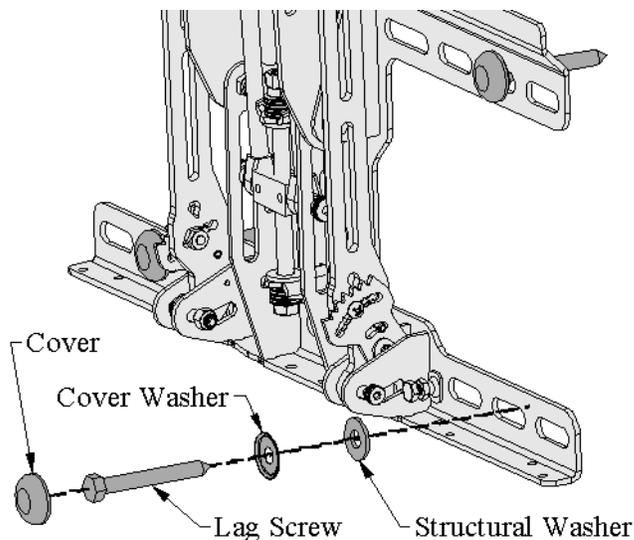

Figure 11, Lag Bolt and Washer Order
5. Figure 11 shows the correct order to put on the lag screw.